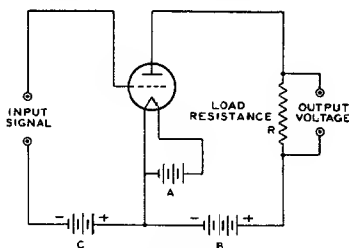

Fig. 5
The plate current flowing through the load resistance (R) of Fig. 5 causes a voltage drop which varies directly with the plate current. The ratio of this voltage variation produced in the load resistance to the input signal voltage is the voltage